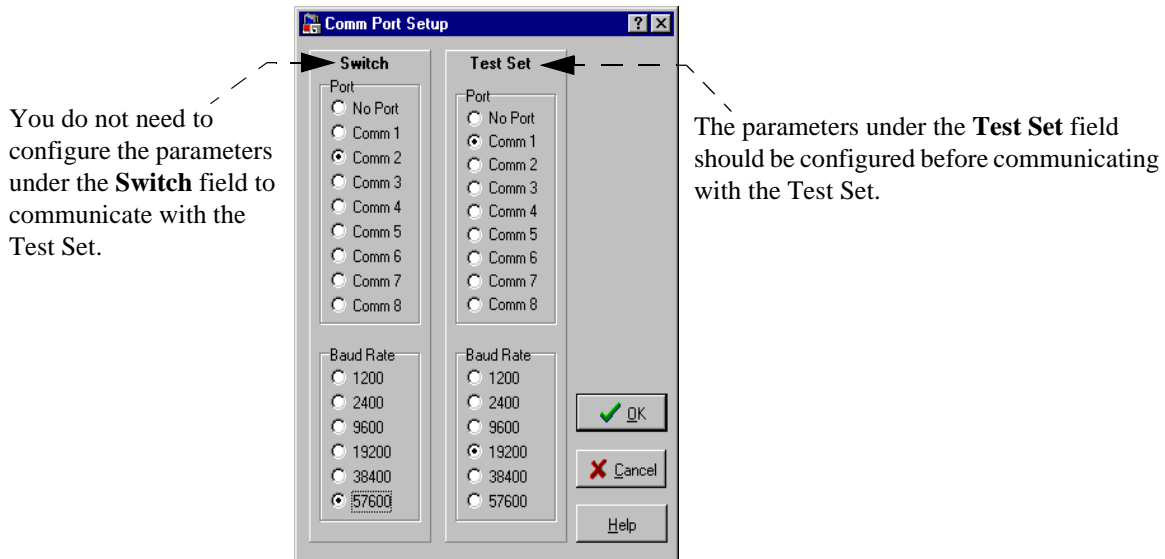

Figure 48 Serial Communication Port Settings
3. Select Preferences and Comm Port Setup. The screen in figure 48 on page 157 will be displayed. Set the serial port configuration settings to work with the Test Set.